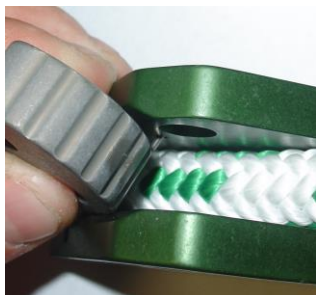

Fig. 5
3. Insert the cam lever with spring into the body of the LAD and on top of the rope. The spring 90° bent tab must be started into the small hole in the side of the LAD body first and then rotate the cam lever inward (Fig.5).